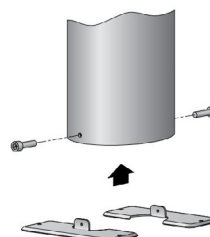

Figure 3:
2. Fix ground plate to pole. (Figure 3).